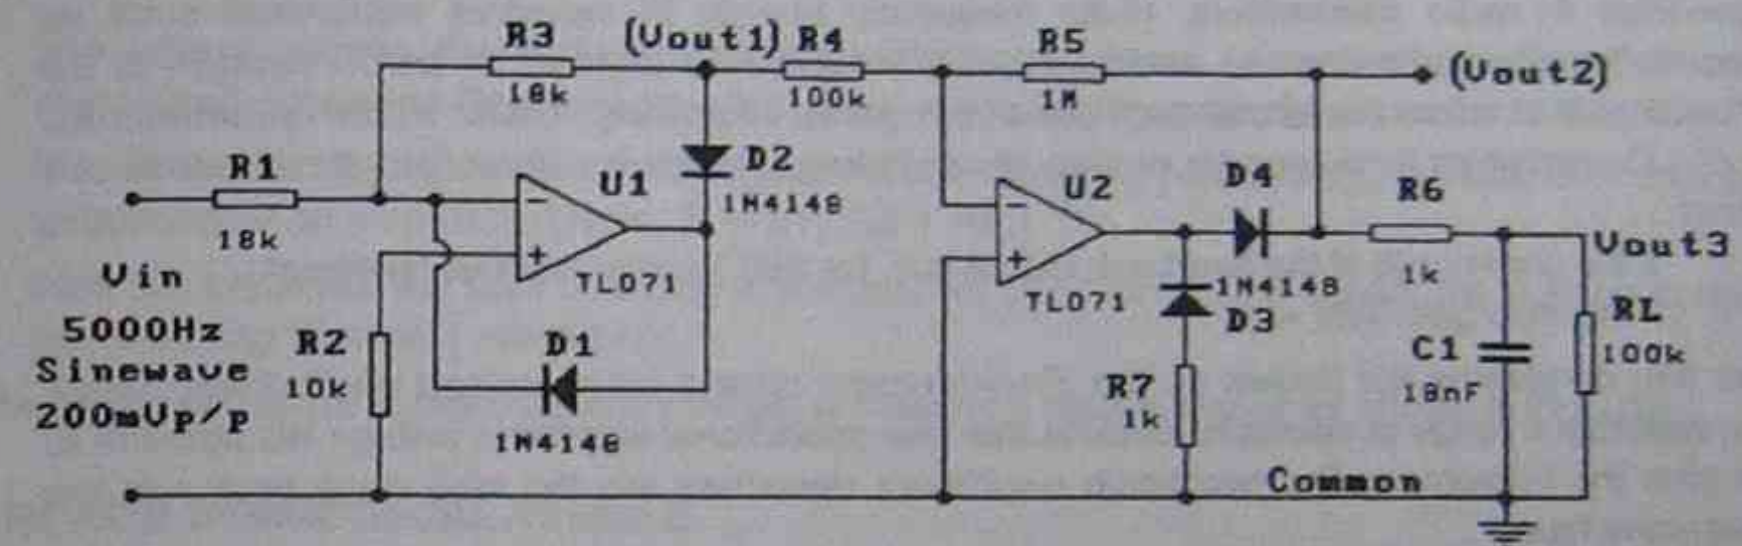

Fig.1
- For the circuit of Fig.1, (assuming ideal components):